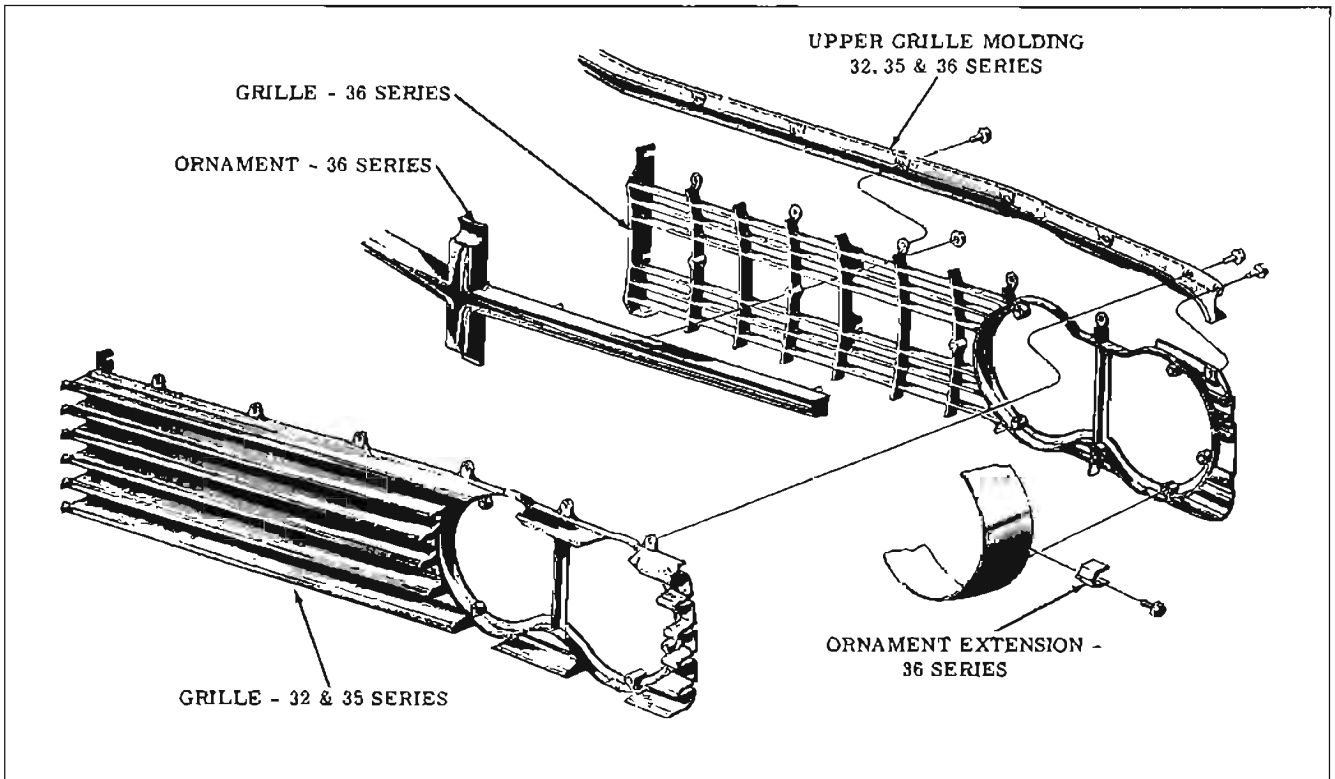

Fig. 12-16 88, S 88 and Starfire Grilles
**HEADLAMP HOUSINGS (Figs. 12-16 and 12-17)**
#### **GRILLE (Figs. 12-16 and 12-17)**
#### **ORNAMENT (STARFIRE ONLY) (Fig. 12-16)**